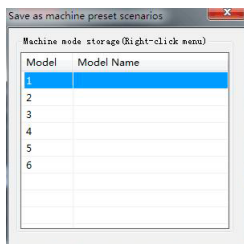

Figure 3.4.2
Step 2: Click "Save as machine preset scenarios" item will pop up after the Save As dialog window machine preset (Figure 3.4.2).